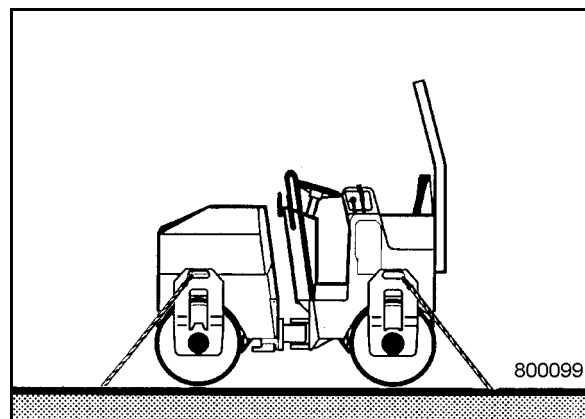

Fig. 74
- Lash the machine to the transport vehicle, attach the lashing gear (Fig. 74) to the front and rear frames.